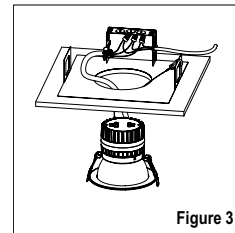

Figure 3
5. Connect incoming AC mains power to fixture input leads. Insert the downlight conduit into the J-box and wire to the power source (black to hot, white to neutral, violet to 0-10V dimming positive, pink to 0-10V dimming negative). Reattach the J-box cover when done. (The grounding of the overall system shall be done in accordance with NEC and local codes). (See Fig. 3)